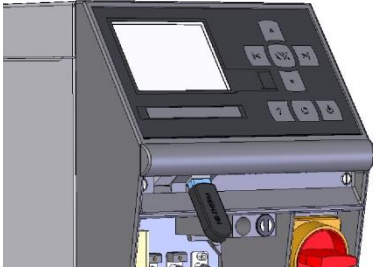

Fig. 77: Connect USB data carrier
2. Connect USB data carrier (Fig. 77).